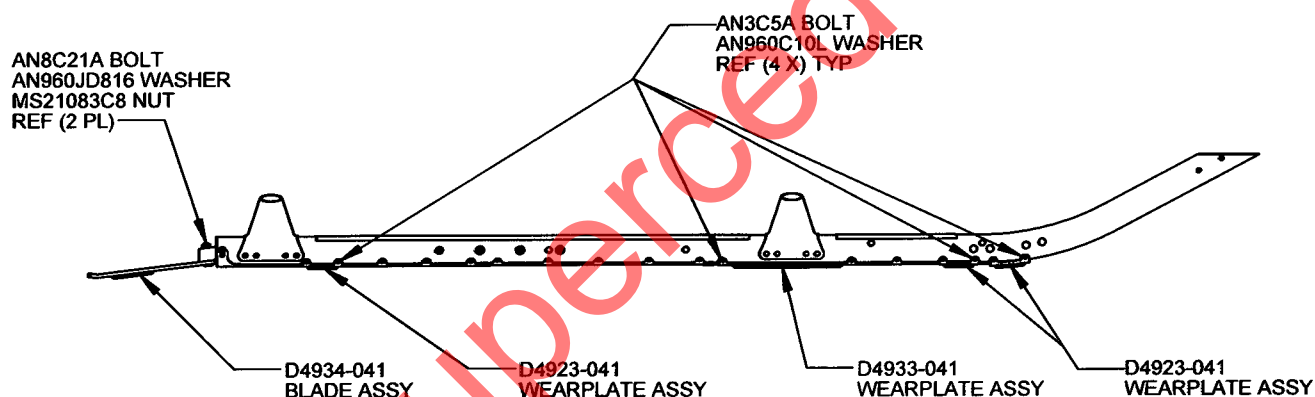

FIGURE 2: D350-636-111 WEARPLATE INSTALLATION
- 4.2 Refer to Figure 2 on sheet 2 of this service instruction. Install the D4934-041 Blade Assy. Torque the AN8C21A bolts to 480-690 in-lbs (54.2-78.0 N-m).
- 4.3 Refer to Figure 2 on sheet 2. Install the D4923-041 Wearplate Assy and the D4933-041 Wearplate Assy as shown. Torque the AN3C5A bolts to 15-25 in-lbs (1.7-2.8 N-m).
NOTE: THE 2 x D4923-041 WEARPLATES CAN BE INSTALLED IN ANY 2 OF THE 3 LOCATIONS INDICATED IN FIGURE 2 ABOVE. A PARTIAL INSTALL OF THE COMPONENTS PROVIDED IN THE D350-636-111 KIT IS ACCEPTABLE AS LONG AS THE INSTALLATION IS THE SAME ON BOTH SKIDTUBES.